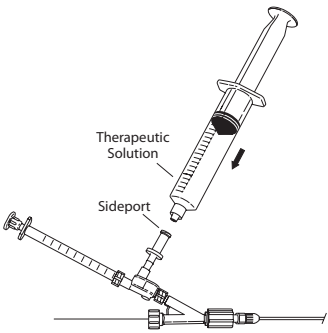

Fig.7
9. To start the procedure for desired administration of therapeutic solution, remove the 20 mL syringe with heparinized saline solution, leaving a meniscus of solution on the sideport fitting. Before attaching another fluid-filled syringe to the sideport, make sure all air bubbles are purged. Reattach with a therapeutic solution-filled syringe. **(Fig. 7)**